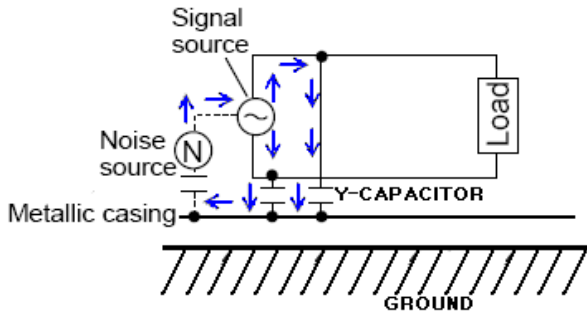

fig. 5
To suppress this type of common mode noise, as shown in the fig.5, shock protected, insulated, earthed, a metallic casing is connected to the all lines on which noise is conducted by using Y capacitors (=line bypass capacitors).
①Class Y capacitor is used in Line-by pass applications, as shown in the fig.5,6 and 8.
②In this location, a failure of the capacitor will cause anybody to electrical shock hazards.